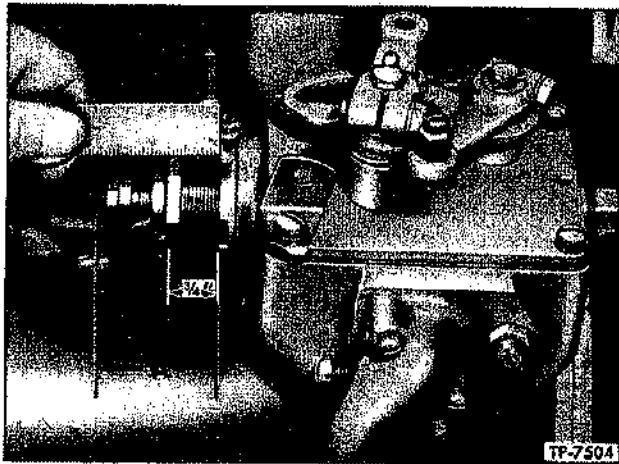

Figure 38—Preliminary Adjustment of Low and High Speed Springs
A. Reset idle adjusting screw (43) to 2" projection ("A" Fig. 38) and replace control housing cover, attaching with two screws.
- B. Set high speed adjusting screw (38) to extend $\frac{3}{8}$ " beyond high speed screw locknut (37) when nut is tight against housing (29) (Fig. 38).